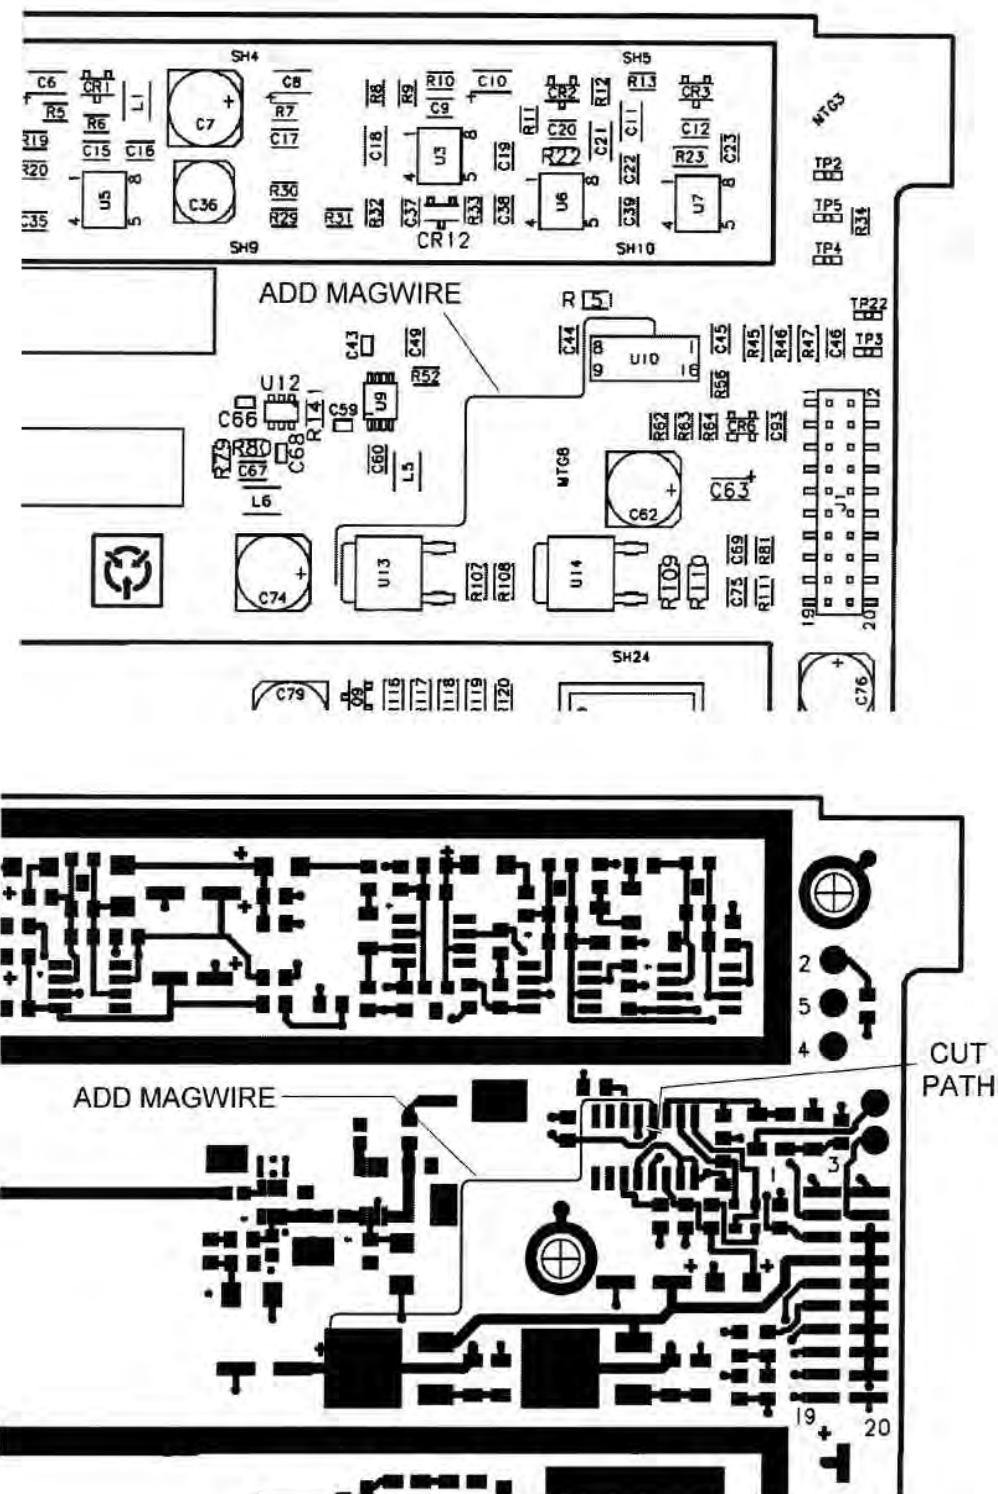

Figure 2
5. Cut the circuit path as shown in Figure 2.
6. Attach a piece of magwire connecting output tab of U13 pin 4 to U10 pin 4. Route the magwire exactly as shown in Figure 2.